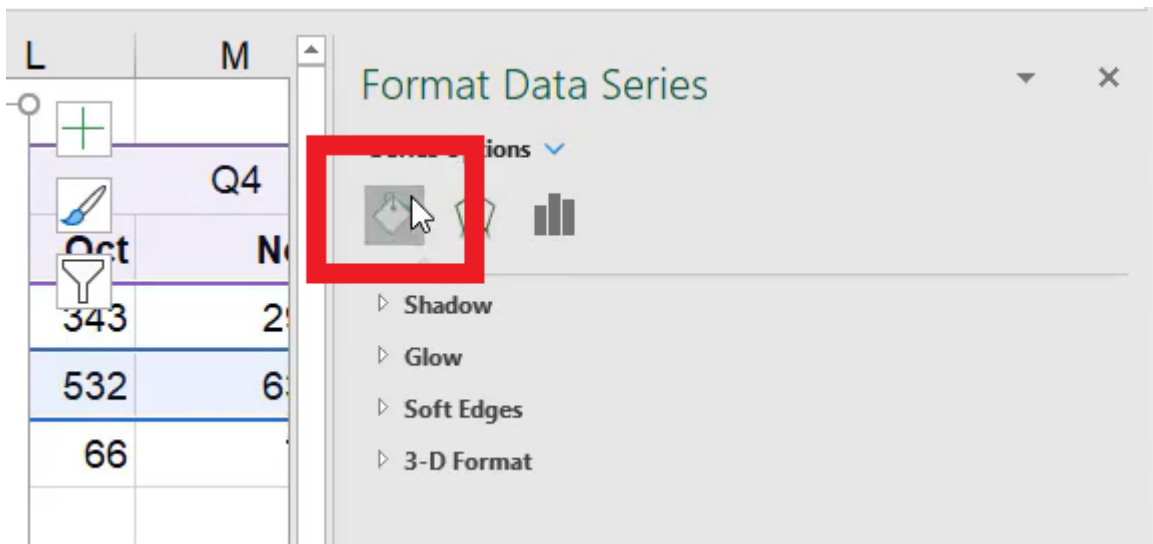

Figure 37.5
3. Select the **fill-in line** option. (See **Figure 37.5**)